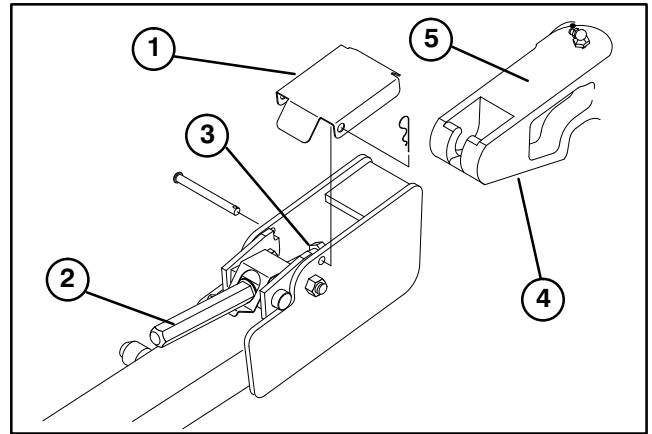

Figure 20
3. Adjust lift arms heights making sure that the machined surface on top of each traction unit lift arm is parallel to ground (Fig. 20). (Raise or lower lift arm casting by pushing up or down from behind the front tires or using wrench in front of tractor)